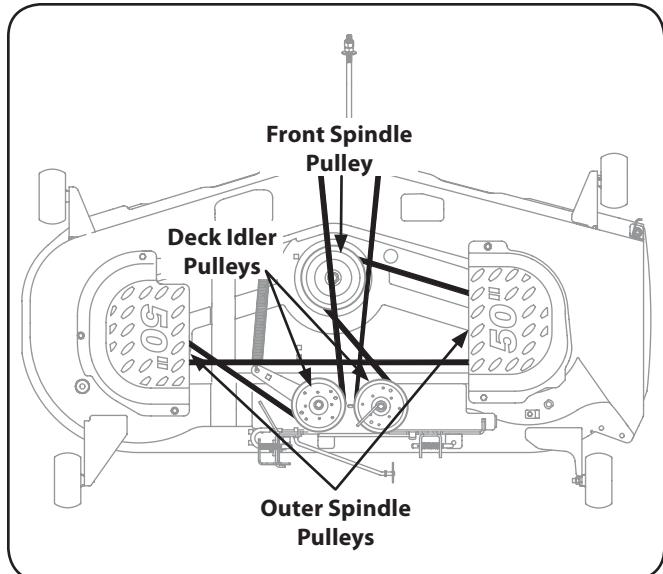

Figure 7-8
5. To place the new belt, begin by routing the belt around the two outer spindle pulleys, then around the front spindle pulley as shown in Fig. 7-8.
6. Then route the belt around the two deck idler pulleys as shown in Fig. 7-8.